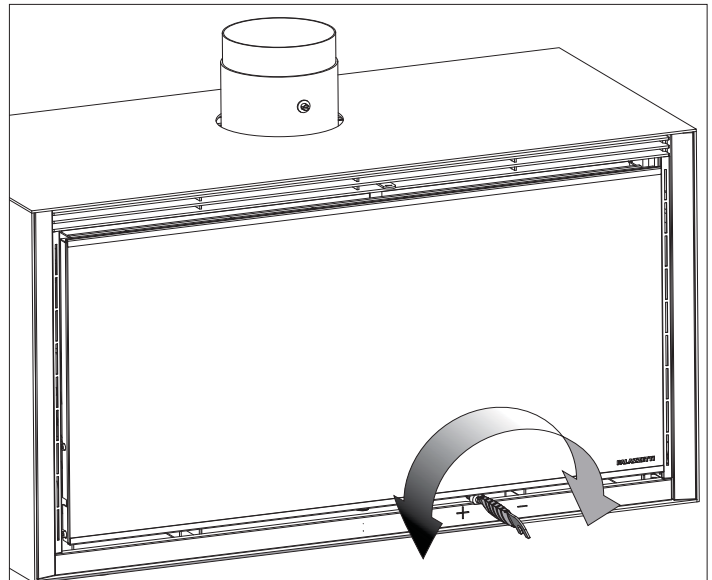

fig. 6.1
- completely open the primary air adjuster (fig.6.1);
The combustion is adjusted by inserting the provided cool handle in the slit on the base of the door corner turning it to right to reduce the air intake and to left to increase it (fig.6.1).